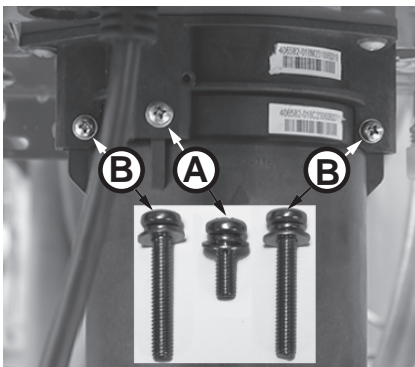

Figure 175 - Identify cartridge screws
- 6 Locate the three (3) screws securing the X3®/Bypass cartridge as shown in Figure 175. Remove the **(A)** M4-12mm screw and the two **(B)** M4-25mm screws from cartridge. Place screws aside in a safe place for reinstallation.